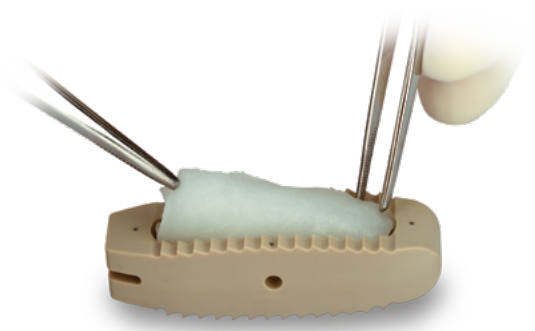

Figure 4
- An appropriate amount of Infuse™ bone graft should be used according to the internal volume of the Clydesdale™ implant. Refer to the Fill Guidelines on pages 22-23 for the appropriate kit(s) to be used with the corresponding Clydesdale™ implant (Figure 4).
- Following a minimum of 15 minutes, and no more than 2 hours, use forceps to roll the wetted collagen sponge(s) and place in the implant's central cavity (Figure 4).